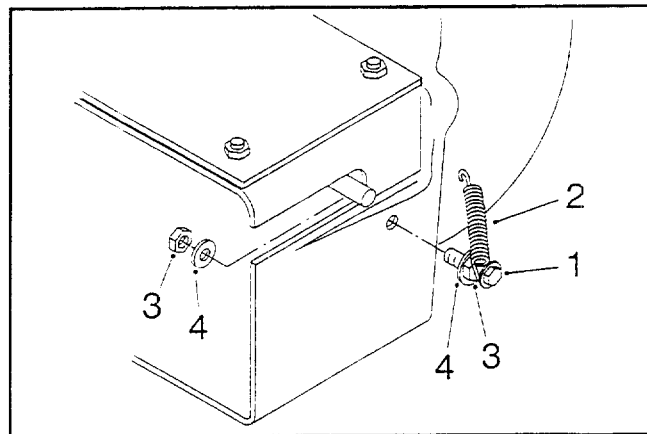

Figure 5
4. Insert a #10 x $\frac{3}{4}$ " screw through the extended loop at the end of the tension spring (Fig. 5). Screw one #10 nut to within $\frac{1}{8}$ inch from the screw head, allowing the spring to pivot freely (Fig. 5).
5. Slide one $\frac{7}{32}$ " flat washer onto the spring and screw assembly (Fig. 5). Insert the screw through the hole in the blower housing from the outside and secure in place with another flat washer and #10 nut (Fig. 5). Tighten the nut.